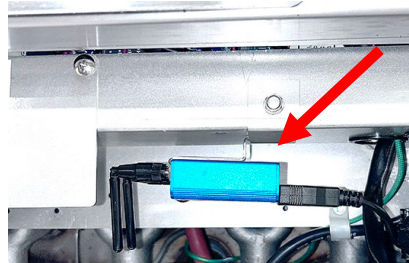

Figure 14
14. If applicable, relocate the cellular modem underneath or Relocate the cellular modem between the controllers on the rear of the bezel using double sided tape (see Figures 14 and 14a).